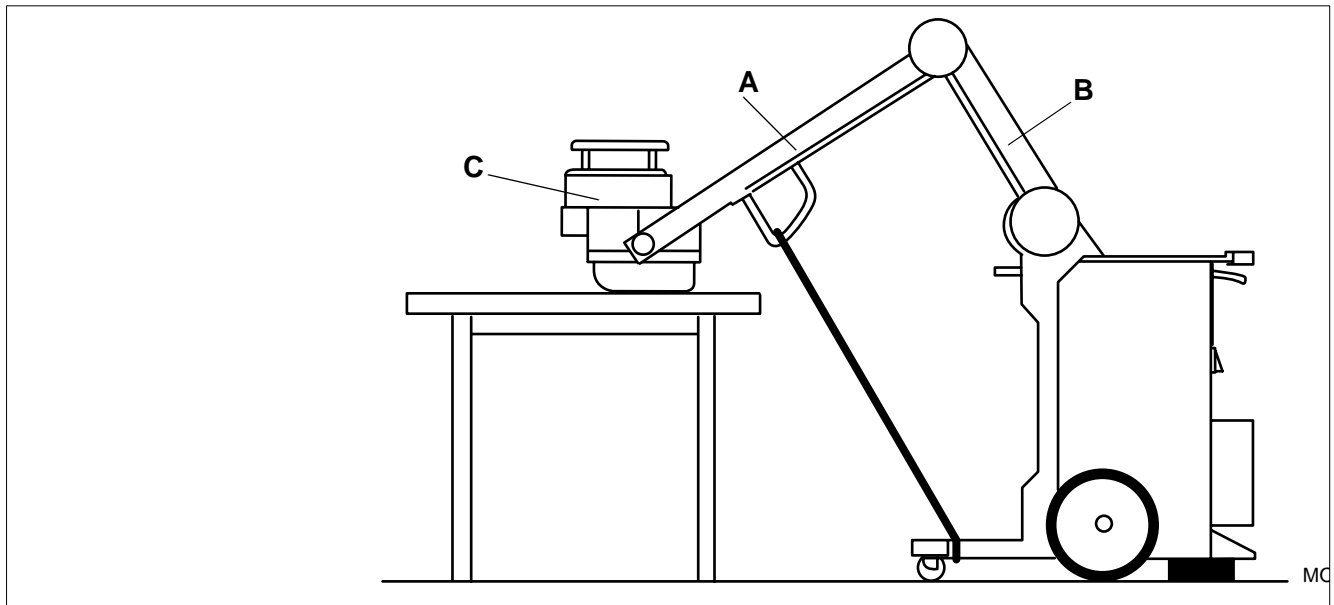

Fig. 19
- Position the unit with the single tank resting on a table. Secure the support arm with a piece of rope (Fig. 19).